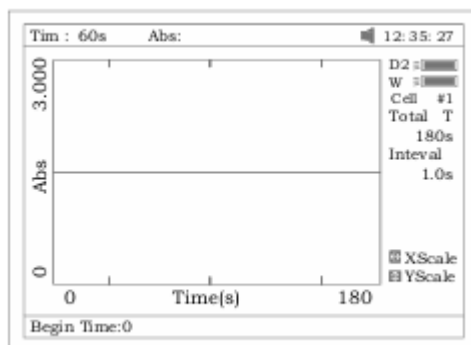
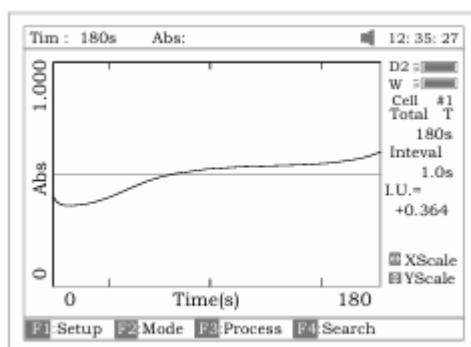

Fig.57
Fig.58
- Press **【F3】** to process the data, and enter “Begin Time,” “End Time” and “Factor” (Fig 57) and the value in I.U. will be calculated and displayed (Fig 58). The average straight line between the Begin Time and End Time will be calculated. The gradient of this line gives the rate of change of $\Delta A/\text{min}$.